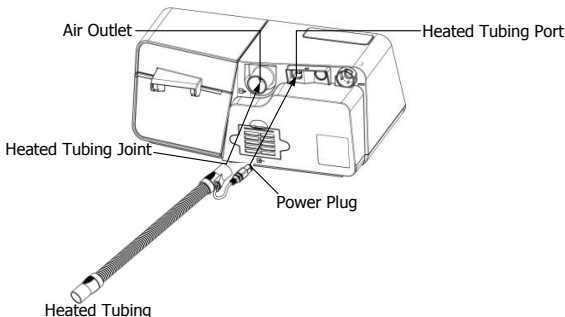

Fig. 11-6
(2) Connect the heated tubing joint to the air outlet of the device, and then insert the power plug into the heated tubing port on the back of the device, as shown in Fig. 11-6.